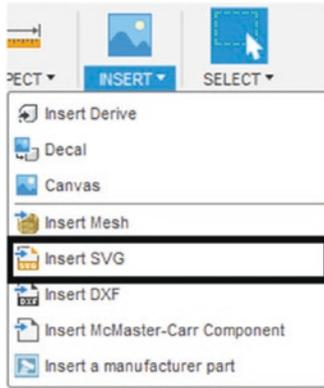

Figure 3-34. Click the “Insert SVG” button
3. Select the “Insert SVG” option. See Figure 3-34.